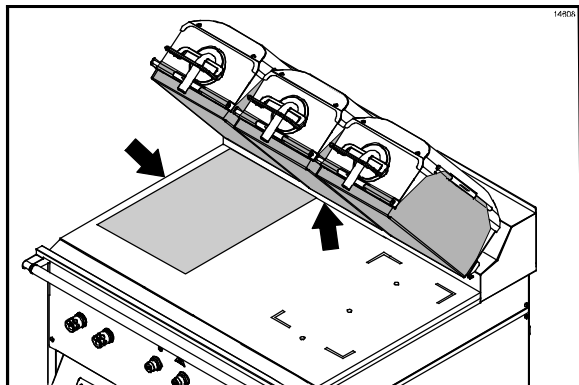

Figure 16
8. With the narrow side of the lower release sheet facing the back of the grill, hold the release sheet about one inch from the end of each side. Align the back edge of the release sheet with the back splash and the side edge of the grill. (See Figure 16.)